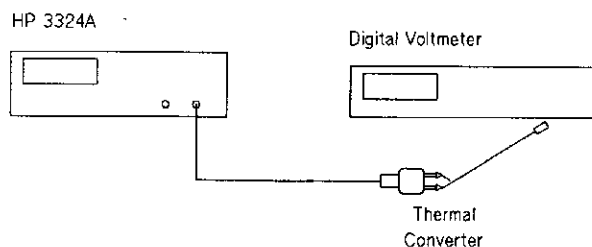

Figure 12-7. Amplitude Flatness Test Set-Up
4. Connect the equipment as shown in Figure 12-7 (the thermal converter should be connected directly to the HP 3324A), and set the DVM to measure DC voltage.